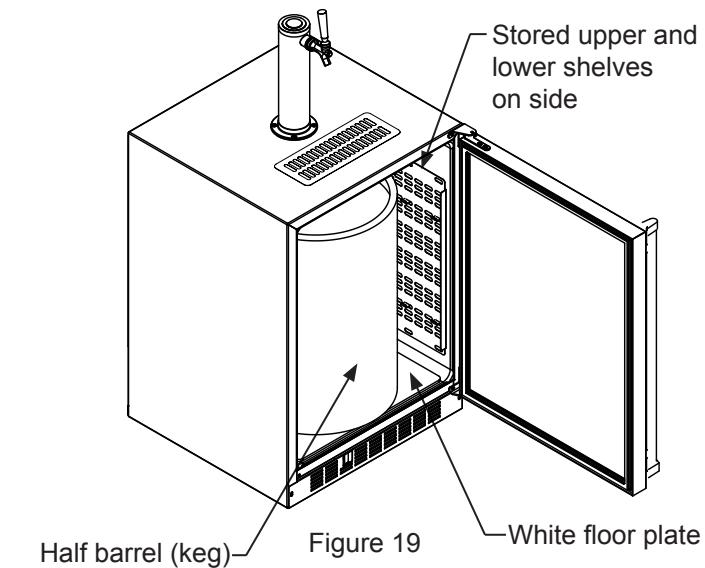

Figure 19
If you are using a half barrel (keg) or (2) 1/6 barrels, place the two shelves on the right side of the keg dispenser on the two mounting hooks for storage. (See Figure 19). Be sure the white floor plate is in the bottom of the interior compartment before positioning the barrel(s).